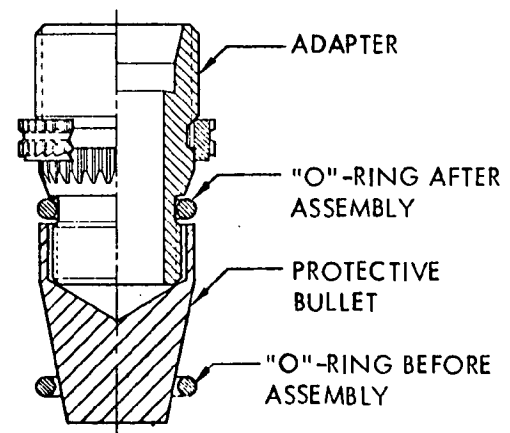

FIGURE 2
- 4.1.1 Place the protector bullet (per Table II) over the small thread of the fitting. Submerge the adapter, bullet and "O"-Ring in the fluid to be used in the working system, or a lubricant compatible with the system fluid and all components. Slide the "O"-Ring over the bullet and onto the fitting. Be sure that the "O"-Ring is not twisted and is properly seated in the groove of the fitting. See Figure 2.